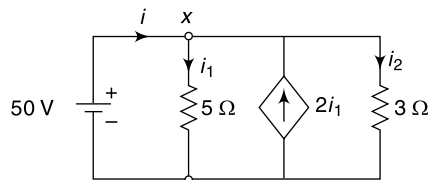

Fig. 4.143 Circuit of Ex. 4.112
4.112 Applying KCL find the value of current i in the circuit shown in Fig. 4.143.